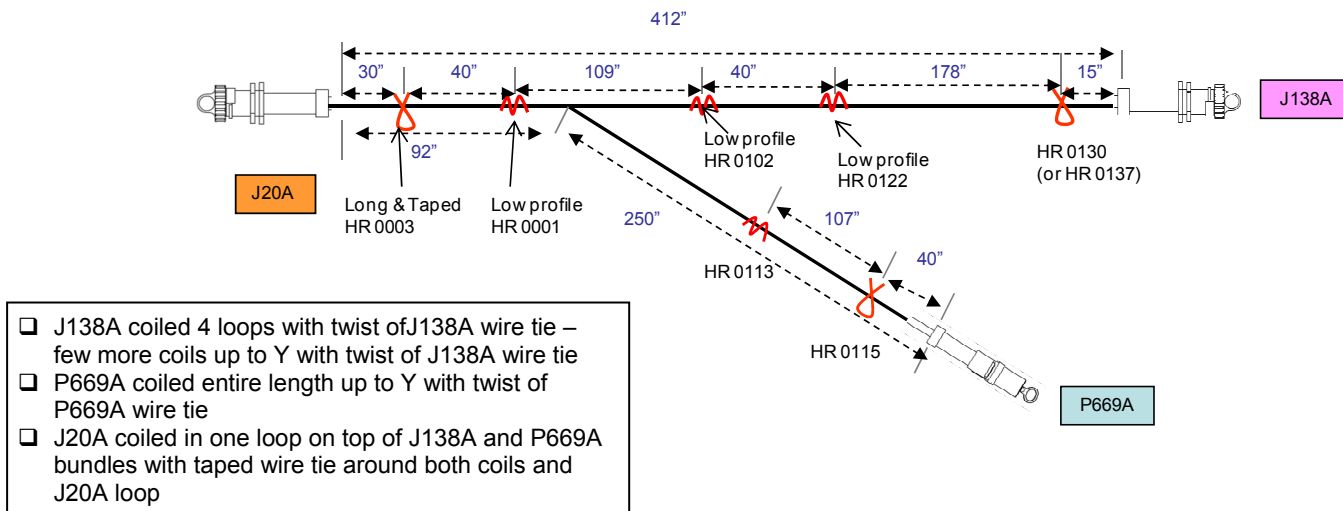

Figure 5: Ch 2/3 FGB Y-Cable (stbd)
- Ch 1/4 (port) Cables (top/front) (see fig 5)